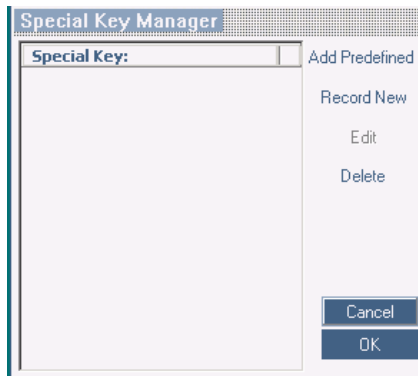

Figure 18 Special Key Manager box
1. Click **Add/Remove**. The Special Key Manager box appears see Figure 18.